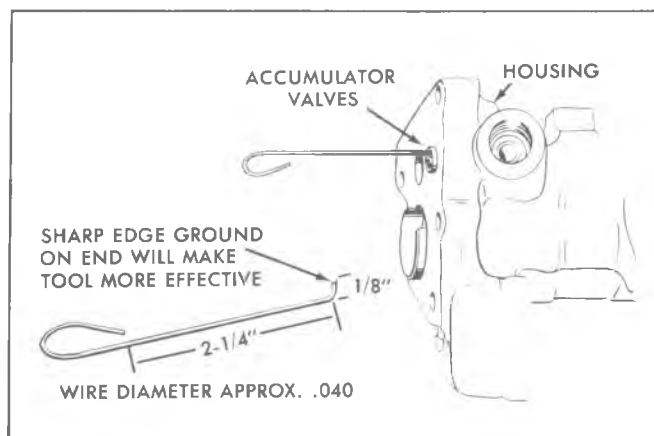
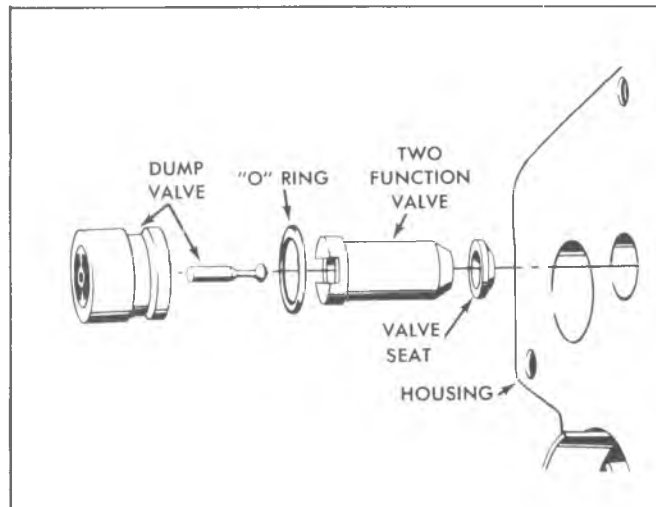

Fig. 5-5E--Removing Accumulator Valves
Fig. 5-8E--Accumulator Valves
15. If accumulator valve was determined to be faulty, remove valve using a small diameter wire tool (fig. 5-5E). Remove the dump valve by catching the tool under the pin guide near the center of the valve, then remove two function valves and seat (fig. 5-8E).
10. If accumulator valve was removed, install new seat into the valve bore. The seat can be forced to the bottom by installing the two function valve (fig. 5-8E).